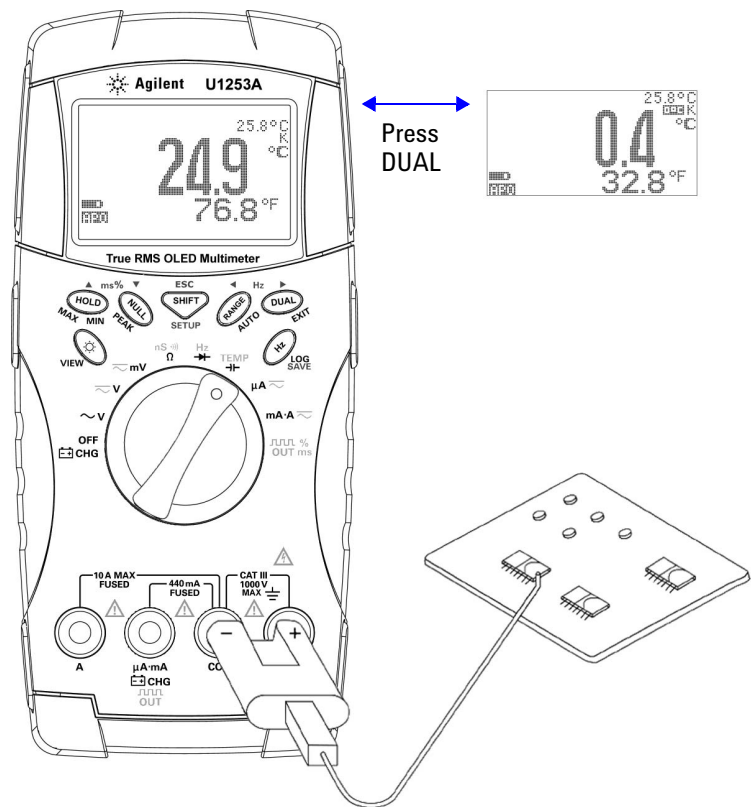

Figure 2-12 Surface temperature measurement
- 3 Plug the thermocouple adapter (with the thermocouple probe connected to it) into input terminals **TEMP (red)** and **COM (black)** (as shown in Figure 2-12 on page 51)